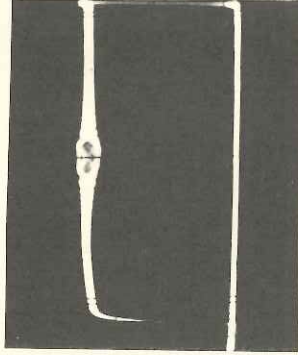

Figure 18. 455 kHz Sweep Trace
5. Set "EXT MOD" switch to "SWP". Adjust core of coil L-7 so that 455 kHz marker appears in the center of the trace, as shown in Figure 18. The marker will be quite broad, as shown. Reduce marker size by setting "XTAL FREQ" switch to "LO".